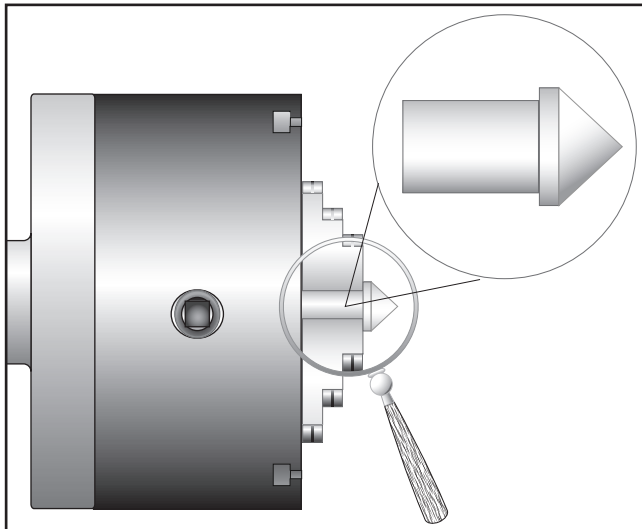

Figure 69. Finished dead center.
2. Make a dead center by turning a shoulder to make a shank, then flip the piece over in the chuck and turn a 60° point. **See Figure 69.** *Note—As long as it remains in the chuck, the point of your center will be accurate to your spindle axis. Keep in mind that the point will have to be refinished whenever it is removed and returned to the chuck.*